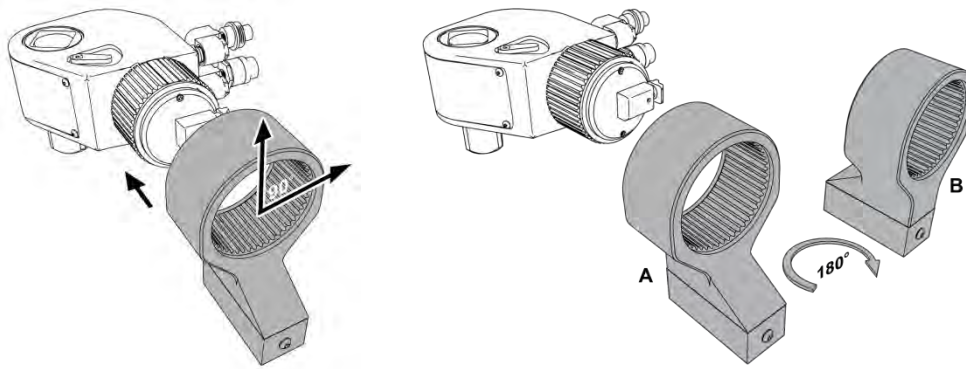

FIGURE 7 – Attaching the Reaction Arm for NSD
2. Connect the reaction arm to the tool and place it so the reaction is as close to 90 degrees as possible. If required reverse the reaction arm for a better reaction. Ensure the reaction arm is completely connected to the tool before proceeding. See FIGURE 7